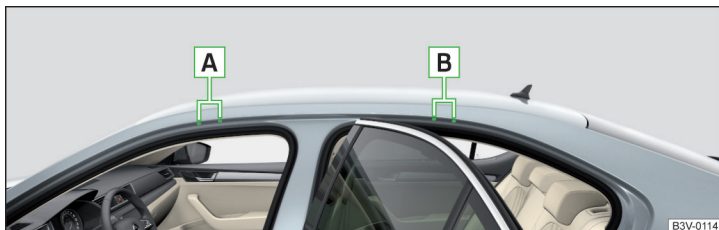

Fig. 152 Attachment points
**Arrangement of the attachment points** » Fig. 152